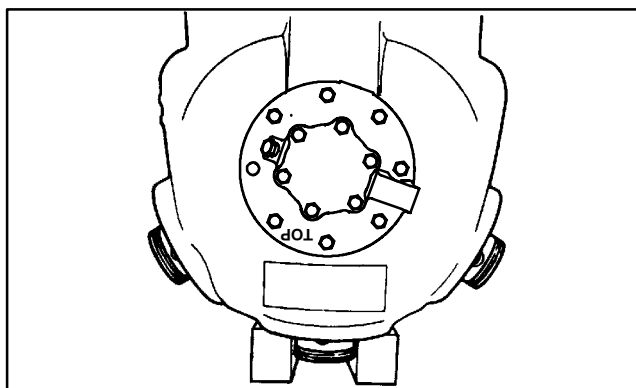

Figure 3-12. Piston Rings Removed
b. Install the bearing head assembly with a new gasket on the compressor crankshaft. Carefully push oil pump on by hand ensuring that the thrust washer remains on the dowel pins, the tang on the end of the drive engages the slot in the crankshaft, and the oil inlet port on the pump is aligned with the oil pickup tube in the crankcase. The oil pump should mount flush with the crankcase with the "TOP" stamp on the pump oriented straight up. (See Figure 3-12)
d. Push the piston rods down so that the piston rings extend below the cylinders. Remove and discard piston rings. Use only new rings when reassembling the compressor. (See Figure 3-12.)